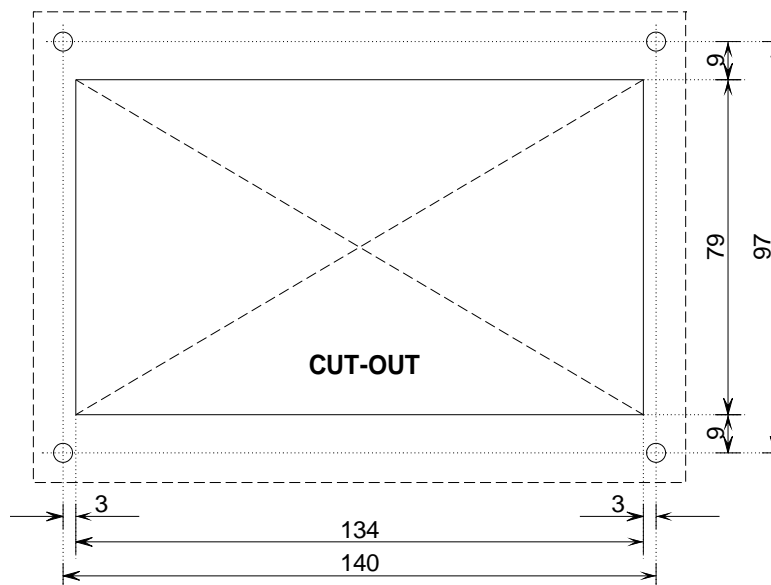

Figure 9 Cut-out details in the panel fascia
3. Using Figure 9 as a guide, cut a rectangular opening 134x79mm in the panel fascia.
4. Drill 4x4mm holes in the panel fascia as shown in figure 9.